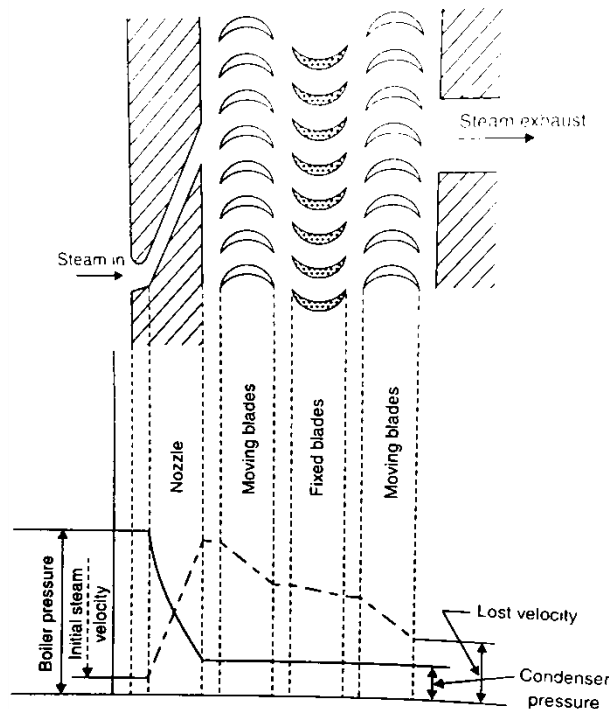

Figure 3 Velocity Compounding
- Following figure 3 shows a stage of blades and changes in pressure as the steam passes through the nozzle, fixed and moving blades.